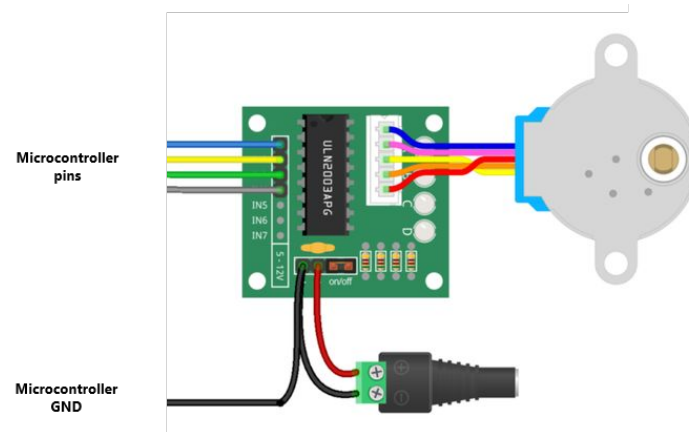

Figure 7.6: Stepper Motor and STM32F4 connection
- (a) Connect ULN2003 board to the stepper motor and to GPIO pins of STM32F4 microcontroller according to the following schematic (Figure 7.6):